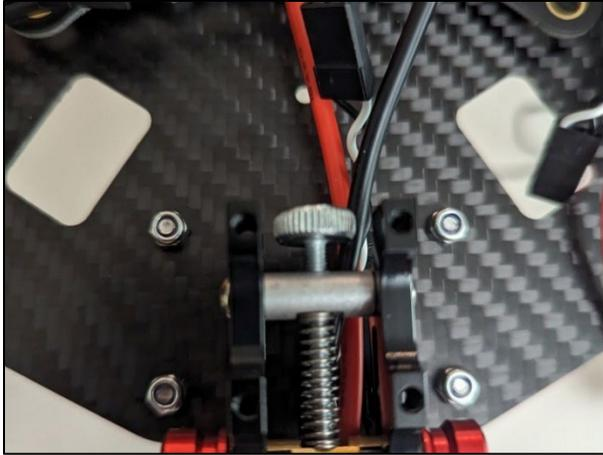

Figure 36 Arm attached to the bottom plate
1. Attach the six arms ²⁷ that were assembled previously using four short bolts (3.C) each and a 2mm hex wrench as shown in **Figure 36**.